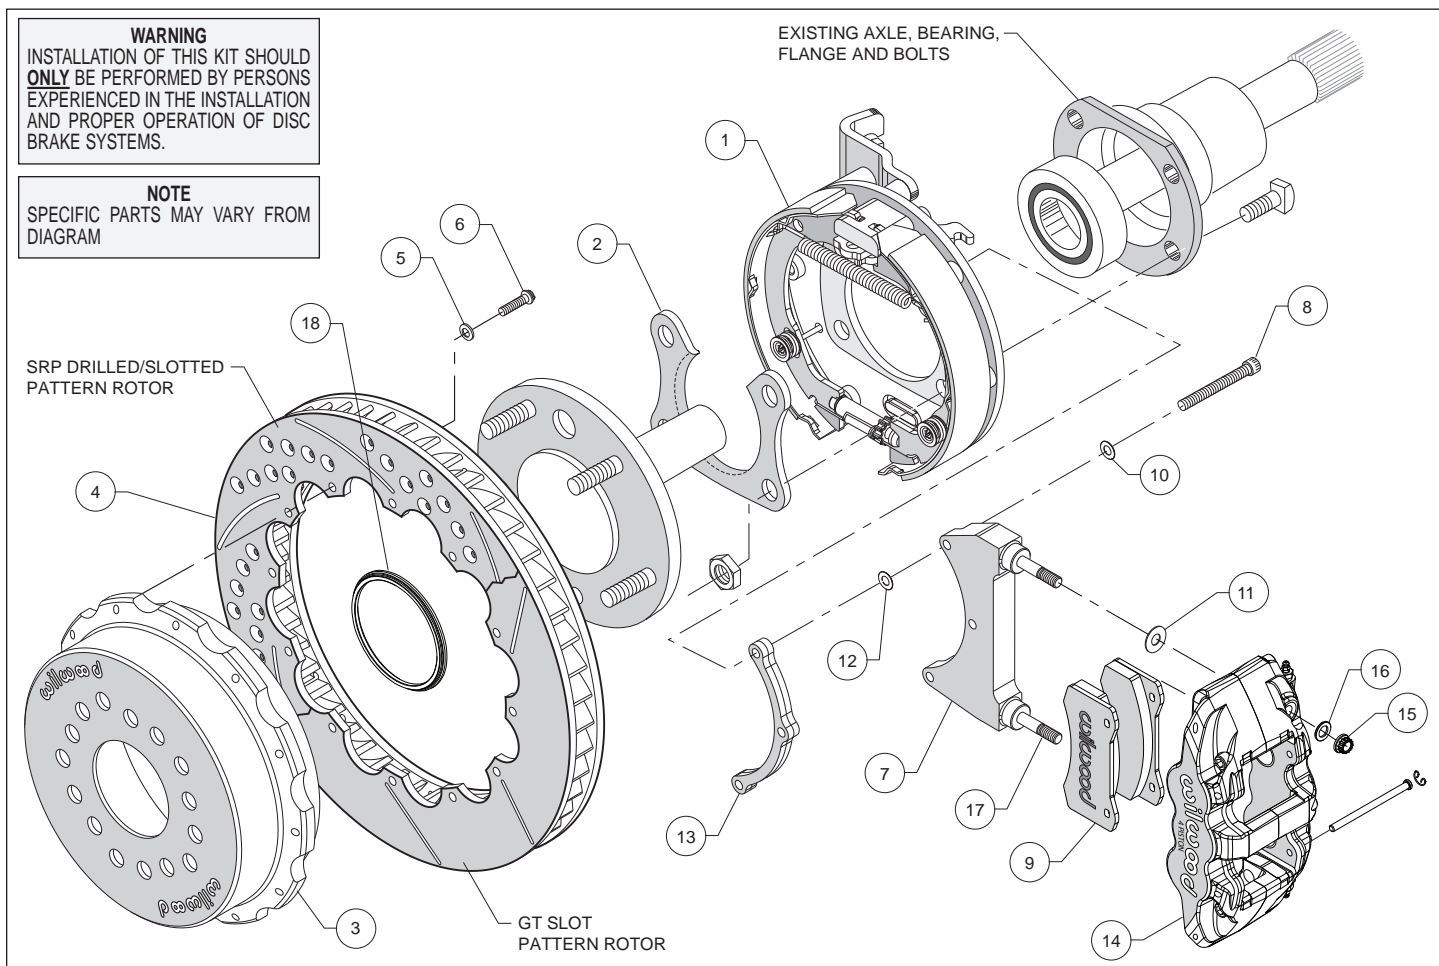

Figure 1. Typical Installation Configuration
- Orient the bracket assembly (1) as shown in Figure 1, and slide it onto the axle flange. Ensure that the bracket assembly backing plate fits flush against the housing flange. Insert the axle shaft into the axle housing.
- Install the bearing retainer (2) with the opening pointing upward and the lip facing inward (toward the bearing), as shown in Figures 1 and 4. Secure using the Original Equipment Manufacturer (OEM) bolts and nuts, Figure 1. Apply red *Loctite*® 271 to the OEM bolt threads and torque to OEM specifications
- Slide the rotor registration adapter (18) onto the axle register on the axle flange with the smaller O.D. facing toward the rotor/hat (3). Align the correct hole pattern in the hat with the stud pattern on the axle flange. **NOTE:** Some OEM and aftermarket axles come with stud sizes larger than 0.50" diameter. Verify stud size and have a qualified machine shop drill the hats to the correct size, if necessary. Slide the hat/rotor assembly (3 and 4) over the wheel studs covering the bracket kit assembly (1) and against the axle flange face. Check to be sure the hat seats squarely against the hub. Install three lug nuts (finger tighten) to keep the rotor/hat assembly in place while continuing with the installation.
- **NOTE:** Please reference the caution statement at the beginning of the assembly instructions. The caliper mounting bracket assembly (7) should be installed first with clean, dry threads on the mounting bolts (8). Install the bracket from the rear side of the bracket kit assembly (1) by sliding bolt (8) through flat washer (10), bracket (7), shim washer (12) and finally through the spacer (13), see Figure 1. **NOTE:** End of bolt should not exceed inside face of insert. The bracket must tighten squarely against the back side of the bracket kit assembly (1). Inspect for interference from casting irregularities, machining ridges, burrs, etc. Use one thin shim (12) between the bracket (7) and spacer (13) during initial trial fitting.
- Lubricate caliper mounting studs and nuts with lightweight oil. Install one shim (11) over each pre-installed stud (17) on the radial mount bracket (7). Slide the caliper (14) in place over the studs and rotor, then install the washer (16) and lock nut (15) to hold the caliper in place. The caliper bleed screws should be pointing up. Snug the lock nuts (15) and check that the rotor (4) is centered in the caliper (14). Add or subtract .015" shims (12) as necessary between the caliper mounting bracket (7) and the spacer (13) to center the caliper (14).
- Remove the two pad retaining pins from the caliper (14) by carefully popping out the pin retaining clips and sliding out the pins. Insert the brake pads (9) into the caliper from the bottom, Figure 1. With the friction material facing the rotor, secure the brake pads in place with the pad retaining pins and clips. Reinstall the caliper onto the caliper mounting bracket and temporarily tighten the lock nuts. Check that the top of the brake pad is flush with the outside diameter of the rotor. If not, adjust by adding or subtracting shims (11) between the caliper and the bracket.
- Adjust the parking brake shoes outward (using a drum shoe adjustment tool available at your local auto parts store) while spinning the hat (3) until a slight drag is felt against the hat/drum. Remove the lug nuts that were holding the hat/rotor in place. Install the wheel and lug nuts. Check to see that the wheel rotates freely without interference.
- Once all clearances have been checked, remove the wheel, caliper, hat/rotor from the bracket kit assembly (1). Secure the caliper mounting bracket (7) to the bracket kit assembly (1) using red *Loctite*[®] 271. Torque bolts (8) to 180 in-lb. Reinstall the hat/rotor assembly and again use lug nuts to hold it in place. Reinstall the caliper, torque the caliper nuts (15) to 47 ft-lb.
- **NOTE:** Clevis and cable kits which attach to the parking brake assembly are not included in the Wilwood parking brake kit. Wilwood offers a generic style parking brake cable kit, P/N 330-9371 for this application which can be ordered separately from your local Wilwood dealer or by calling Wilwood customer service at (805) 388-1188.